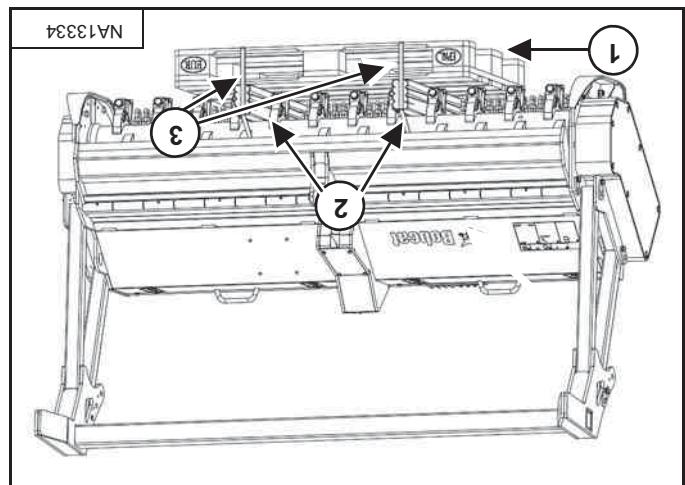

Figure 101
Put forestry cutter on pallet (item 1). Place blocks (item 2) between carbide teeth as shown in [Figure 101]. Strap (item 3) machine to the pallet (item 3) [Figure 101].